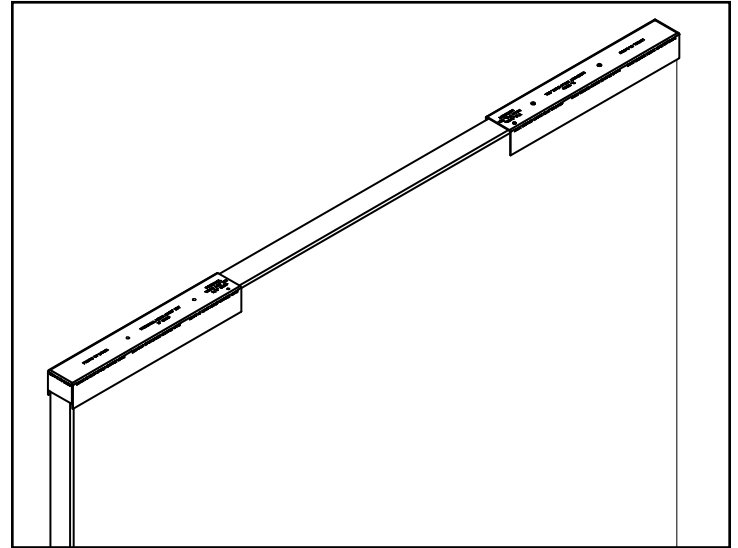

Figure 7. Top Mount Hanger Drill Guide
Drill pilot holes for mounting Top Mounted Hanger Brackets to the door, as shown in Figure 7.
2. Orient the Top Mounted Drill Guide on the top edge of the door as seen in Figure 7.
5. Drill pilot holes. First, use a 1/8" drill bit for the (2) holes for the top mount hanger and (1) for the anti-jump disk. Next, switch out for the 5/32" drill bit and repeat drilling for the (2) hanger mount holes.